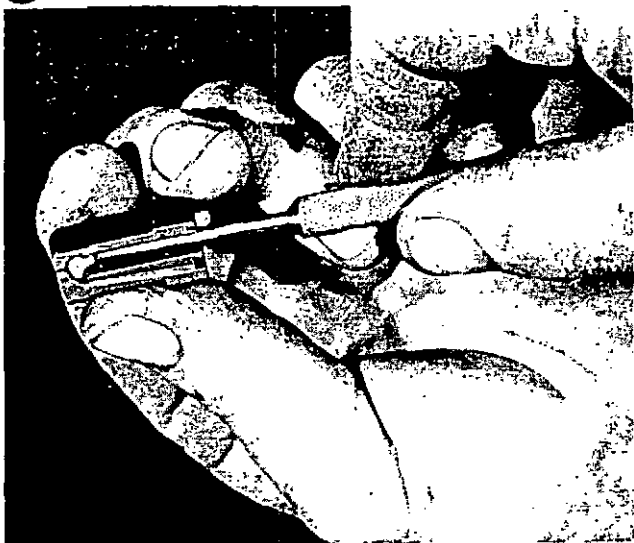

Figure 106
3. The inside of the nozzle body can be cleaned with brass scrapers included in the cleaning kit or if these tools are not available, by forming a piece of soft wood, soaked in oil, with a point corresponding to the nozzle valve seat angle. Clean the nozzles with a wood splinter. Figures 106 and 107.